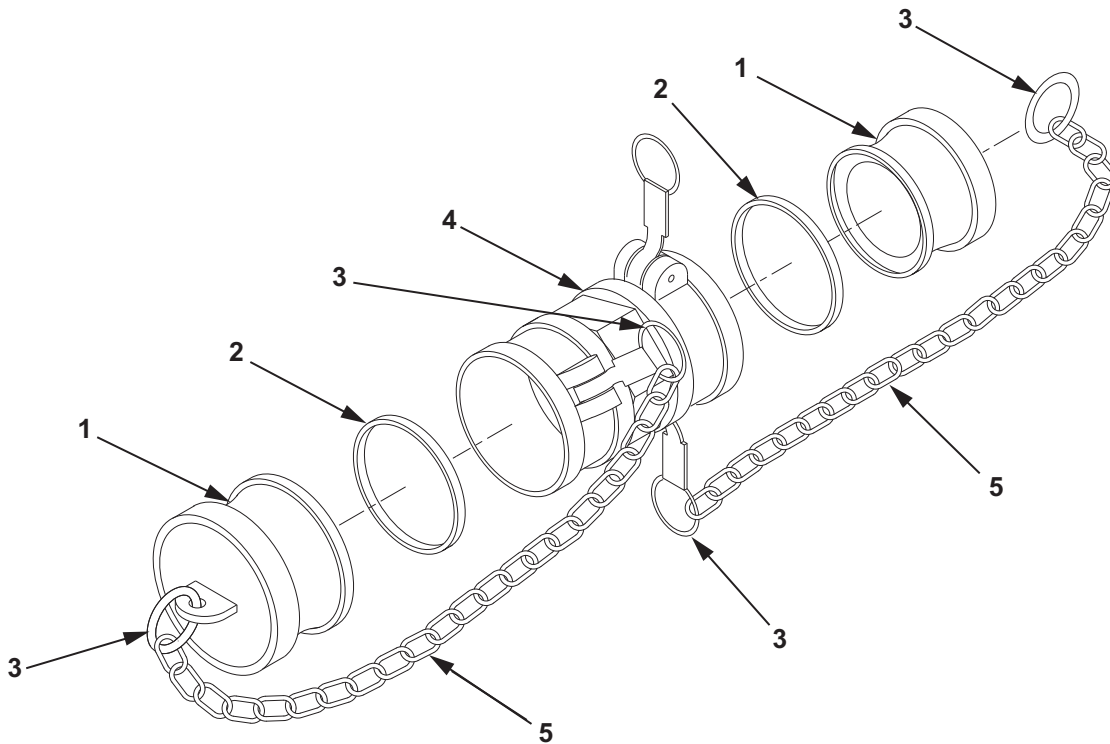

Figure 2. 3 In. Double Female Adapter Assembly.
1. Install four split rings (Figure 2, Item 3) on two chains (Figure 2, Item 5).
2. Install four split rings (Figure 2, Item 3) on two dust plugs (Figure 2, Item 1) and double female adapter assembly (Figure 2, Item 4).
3. Install two gaskets (Figure 2, Item 2) into double female adapter assembly (Figure 2, Item 4).
4. Install two dust plugs (Figure 2, Item 1) into double female adapter assembly (Figure 2, Item 4).